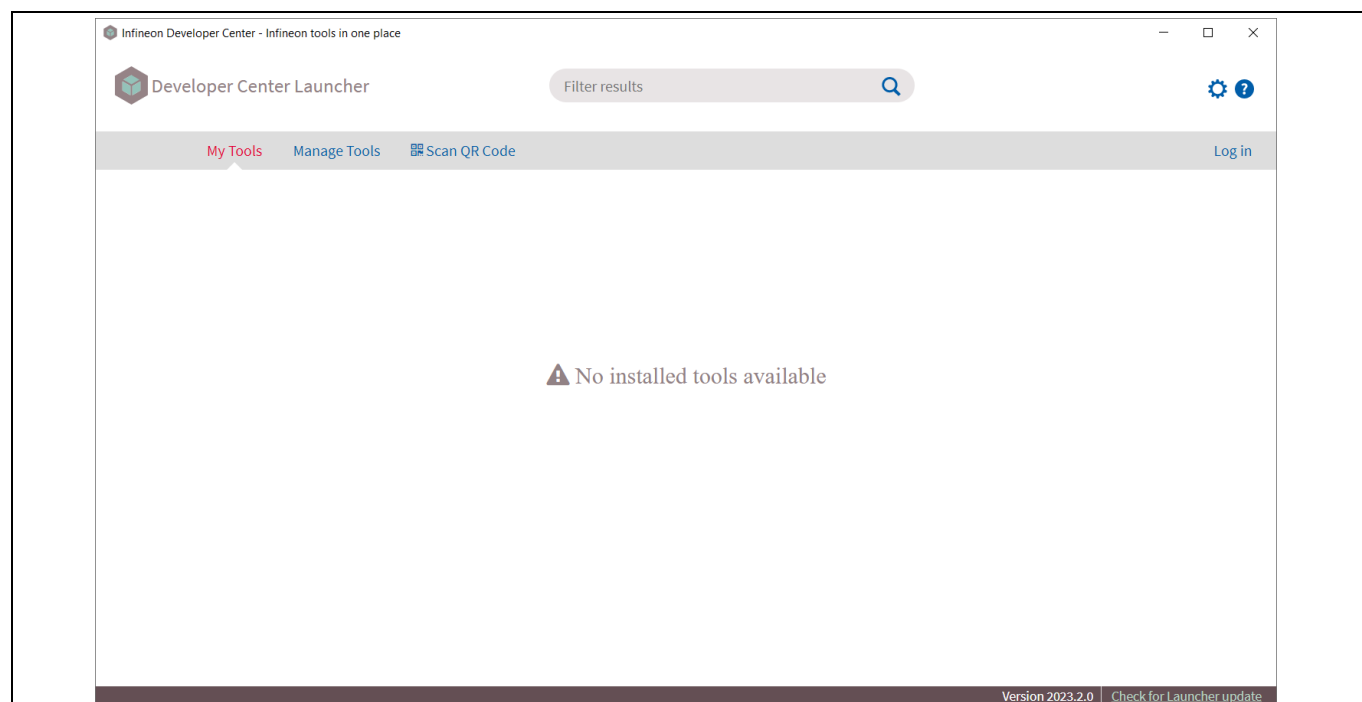

Figure 3 My Tools under IDC Launcher
- Run the Infineon IDC Launcher by double-clicking on the tool icon on your Windows desktop. The program starts under the **My Tools** tab, as shown in Figure 3.